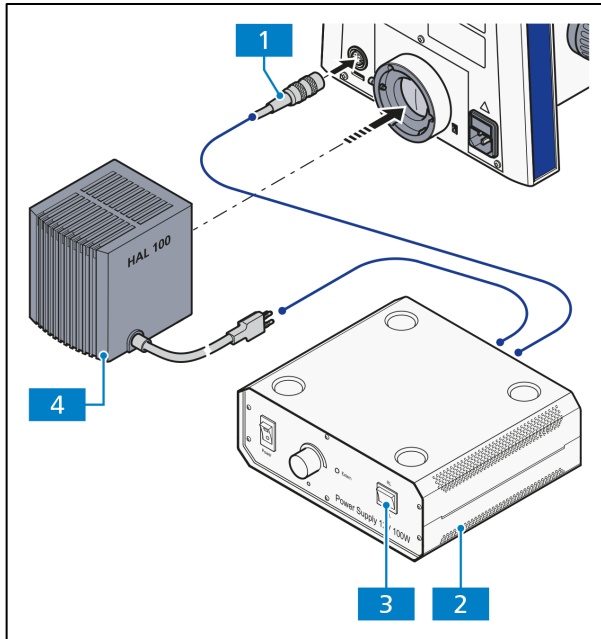
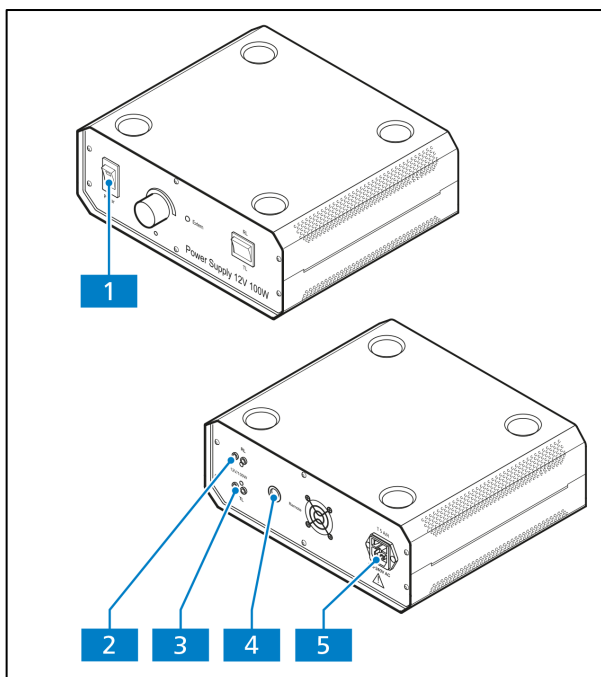

Fig. 3-53 Lower stand part for HAL 100 illumination
Fig. 3-54 External power supply unit for two lamps (front and back)
- Mount the HAL 100 (Fig. 3-53/4) on the transmitted light connector of the stand (see also section 3.1.19.1).
- Connect the 3-pole lamp plug of the HAL 100 to the port for transmitted light **TL** (Fig. 3-54/3) of the separate power supply unit for two lamps (Fig. 3-53/2).
- Connect the cable for illumination intensity control (Fig. 3-53/1) to the corresponding port (**Remote**) on the back of the stand or to that of the power supply unit (Fig. 3-54/4).
- Switch the toggle switch (Fig. 3-53/3) for reflected or transmitted light to the **TL** position (transmitted light).
- Connect the 3-pole lamp plug of the HAL 100 to the port for reflected light **RL** (Fig. 3-54/2) of the separate power supply unit for two lamps.
- Connect the power cord of the external power supply unit (Fig. 3-54/5) to an electrical outlet.
- Switch on the halogen illuminator for transmitted light (lower stand part for HAL 100 illumination) and reflected light (if in use) at its separate external power supply unit (Fig. 3-54/1) (also refer to the separate operation manual of the external power supply unit). Depending on whether you want to use the illuminator for reflected light or the illuminator for transmitted light, switch the toggle switch (Fig. 3-53/3) for reflected or transmitted light to the **TL** position (for transmitted light) or to the **RL** position (for reflected light).